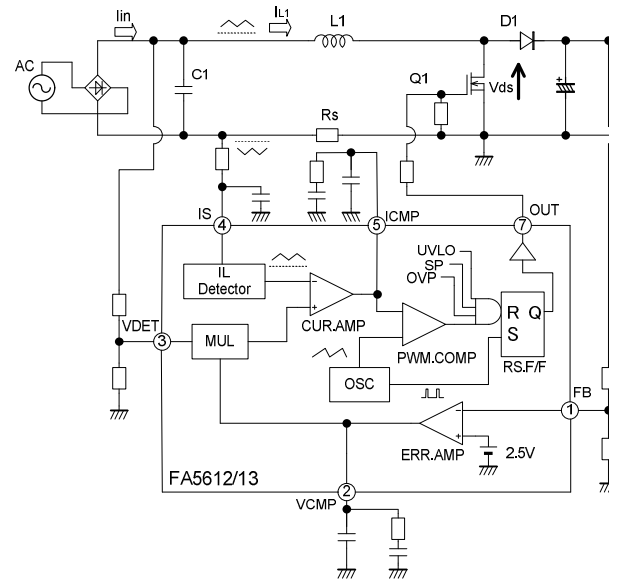

Fig.1 Block diagram of operating circuit
The operations, (1) Switching and (2) Power factor collection, are explained as below with the simplified circuit diagram shown in Fig.1.
(1) Switching operation